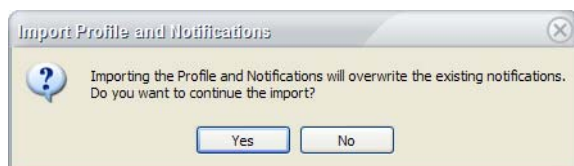

Figure 12-9: A warning message
- 2) Click  (Import Profile and Notification). A confirmation message appears. See Figure 12-9.